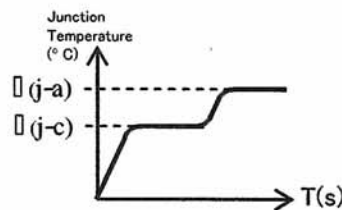

Figure 3.  $\theta(j-a)$  Characteristic Plot
- For example, with heating power 1W(1V, 1A) initiated at the heating element and the temperature sampling interval from 0 to 500us to ensure thermal equilibrium is reached, the temperature dependent voltage,  $V_f$  is measured and converted to junction temperature as shown in Figure 3.